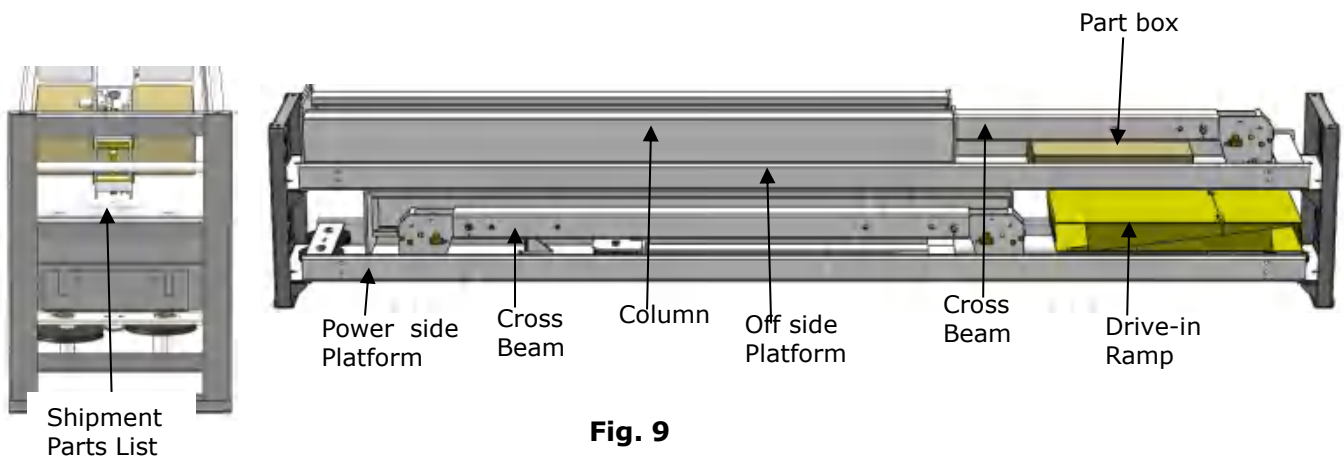

Fig. 9
2. Move the lift aside with a fork lift or hoist, open the package and check the parts according the shipment list. **(See Fig. 9).**